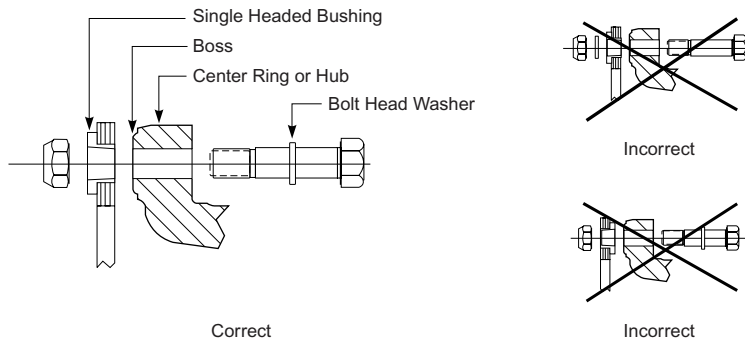

Figure 9 - Correct and Incorrect Assembly of the Bolt and Bolt Head Washer with the Center Ring and the TPack Disc Pack Bushing.
- 9.3. If the coupling is not preassembled, place a bolt head washer on each bolt and install eight bolts with a bolt head washer through all eight bolt holes in the radial extensions in the center ring, as shown in Figure 9.
- 9.4. Slide a Tpack disc pack over the four bolts on the end that will mate to the flywheel adapter so that the single headed bushings in the Tpack are opposite the center ring bosses as shown in Figure 9. Use caution to ensure that bolt head washer and Tpack disc pack are not assembled incorrectly as shown in the incorrect methods in Figure 9.
The bolt head washer must be placed under the bolt head so that it is between the bolt head and the flange, as shown in the correct method of Figure 9. If it is placed on the bolt after the single headed bushing, it could become trapped between the locknut and the bolt body. This could prevent the locknut from fully clamping the disc pack which could result in looseness and fracture of the bolted joint.
- 9.15. Align the Tpack disc pack with the bolt holes in the radial extensions of the center ring so that the single headed bushings in the Tpack are opposite the center ring bosses as shown in Figure 9. Use caution to ensure that bolt head washer and Tpack disc pack are not assembled incorrectly as shown in the incorrect methods in Figure 9.
- 9.29. If not already preassembled, place a bolt head washer on each bolt and install eight bolts with a bolt head washer into all eight bolt holes in the radial extensions in the center ring, as shown in Figure 9. To provide clearance during assembly, the bolt threads should not extend beyond the bosses on the face of the center ring,
- 9.30. Slide a Tpack disc pack between the center ring and the hub so that the single headed bushings in the Tpack are opposite the center ring bosses as shown in Figure 9.
The bolt head washer must be placed under the bolt head so that it is between the bolt head and the flange, as shown in Figure 9. If it is placed on the bolt after the single headed bushing, it could become trapped between the locknut and the bolt body. This could prevent the locknut from fully clamping the disc pack which could result in looseness and fracture of the bolted joint.
- 9.34. Use caution to ensure that bolt head washers and Tpack disc pack are not assembled incorrectly as shown in the incorrect methods in Figure 9.
- 9.39. Align the Tpack disc pack with the bolt holes in the radial extensions of the center ring so that the single headed bushings in the Tpack are opposite the center ring bosses as shown in Figure 9. Use caution to ensure that bolt head washer and Tpack disc pack are not assembled incorrectly as shown in the incorrect methods in Figure 9.